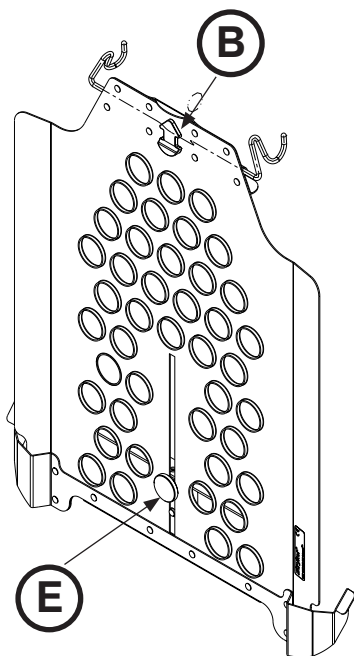
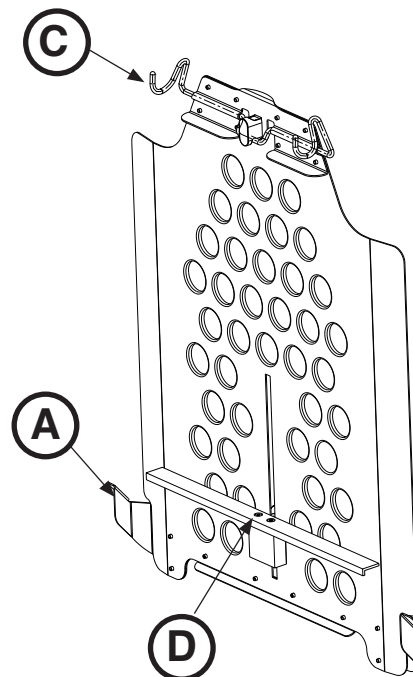

Figure 53: Upright X-Ray Cassette Holder
Figure 54: Upright X-Ray Cassette Holder
2. Position the upright cassette holder, placing the lower retainer guides (A) under the fowler weldment bar (Figure 54).
4. Insert and remove cassettes from the upright cassette holder from either side of the cassette holder or pull up on the yellow arrow to release the wire latch (B) on the upright cassette holder, releasing the upright cassette holder from the fowler weldment, and then position the cassette in the holder.
5. Loosen the knob (E) on the back side of the upright cassette holder and adjust the cassette support rail (D) to position the cassette in the desired location (Figure 53). Tighten the knob to secure the cassette support rail in place.
1. With the fowler raised, pull up on the yellow arrow (B) to release the wire latch (C) on the upright cassette holder from the fowler weldment bar (Figures 53 and 54).
2. Lift up on the upright cassette holder to release the lower retainer guides (A) on the upright cassette holder from the fowler weldment bar (Figure 54).